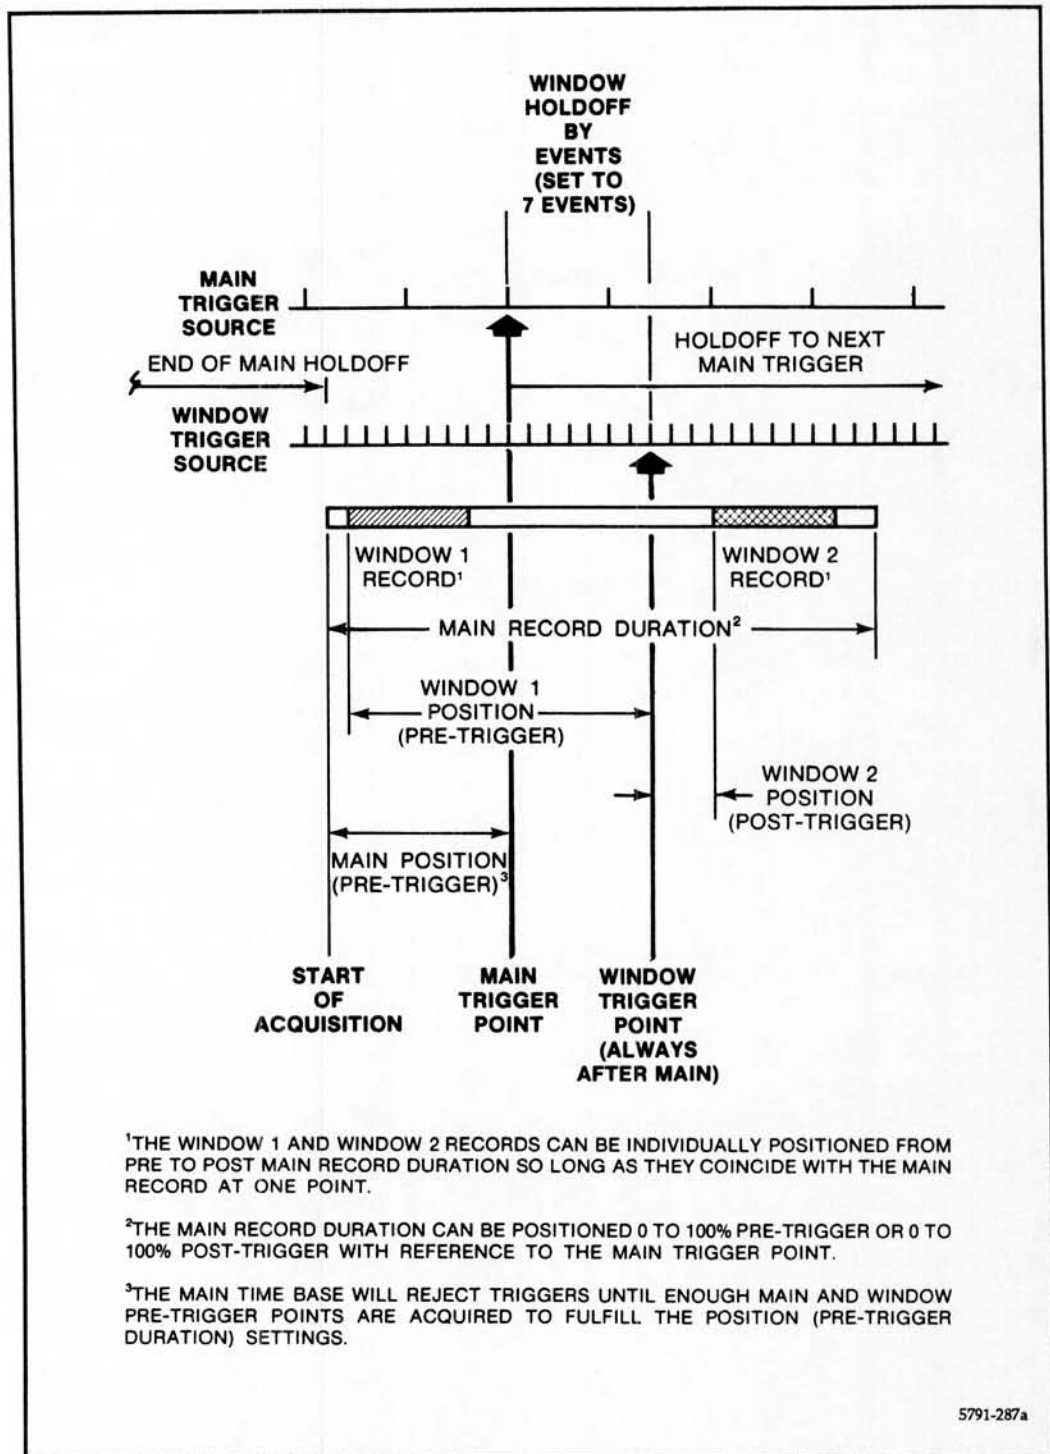

Figure 2-26. Window Trigger point holdoff by events from the Main Trigger Point.
- **Holdoff by Events Triggered from Window**—The Window time base trigger is held off (not allowed) for a user-set number (n) of events (window triggers) after the Main trigger. The Control knobs are assigned to vary the events holdoff when the **Holdoff** label or Trigger icon is selected. The Window time base triggers when the nth event occurs. Window records are positioned with respect to the window trigger point. Touch the Horizontal Size and Position icon to position the Windows. Figure 2-26 presents an example of this trigger holdoff mode in graphic form.